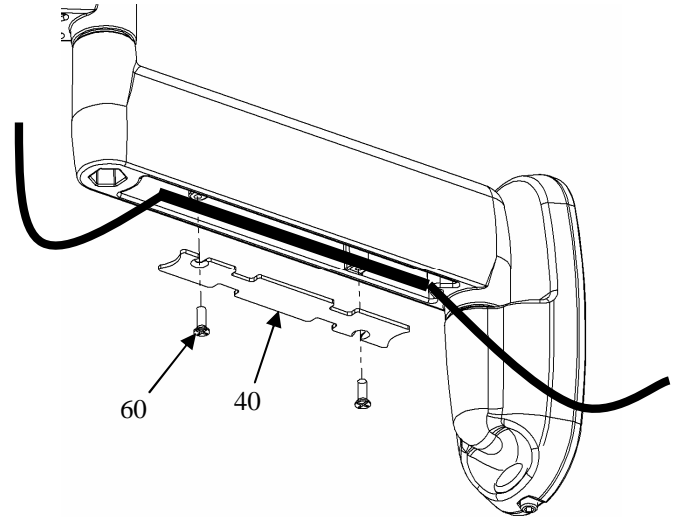

Figure 16. Cable Management
3. Secure cables using cover plate (40) and two screws (60). See Figure 16.